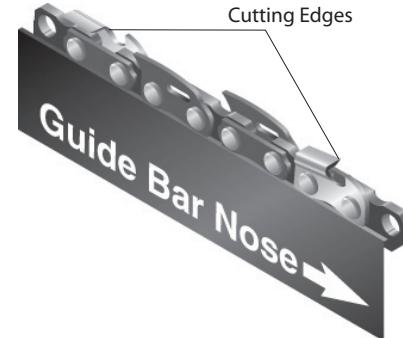

Figure 37 - Correct Installation of Saw Chain
4. Place new chain around drive sprocket, along top groove of guide bar, and around guide bar nose. Note: Make sure cutting edges of chain are facing in right direction. Position chain so cutting edges on top of guide bar face guide bar nose (see Figure 37 and indicator on side cover of saw).